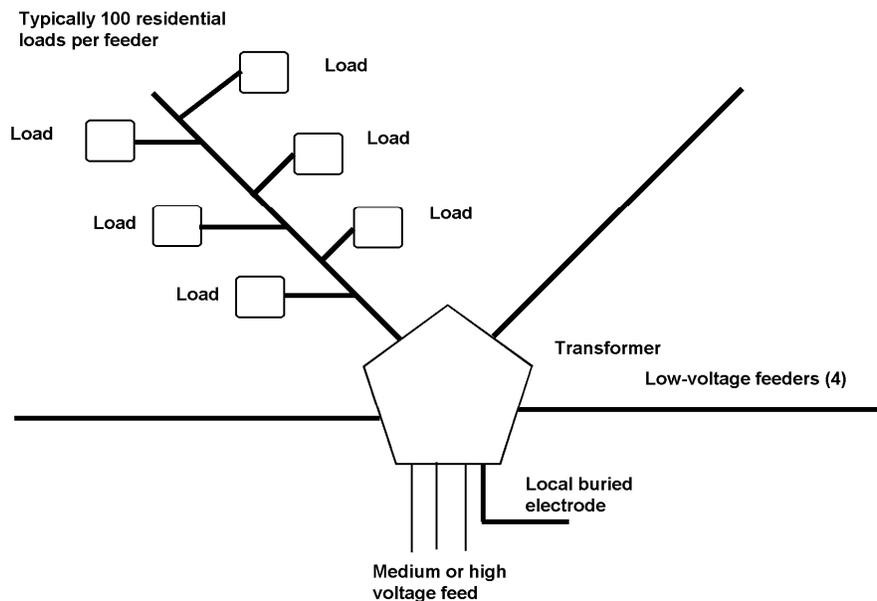

Figure A-6 – European power distribution
**Europe** In Europe, local low-voltage distribution is at 230 V single phase (and thus 400 V 3-phase). While perfectly balanced 3-phase loads produce no fundamental neutral current, single-phase loads and most non-linear loads produce significant, possibly very large, neutral currents. Consequently, to minimize magnetic field generation, neutral and phase conductors are normally required to be kept physically close together. However, there are, unfortunately, exceptions. (Figure A-6)